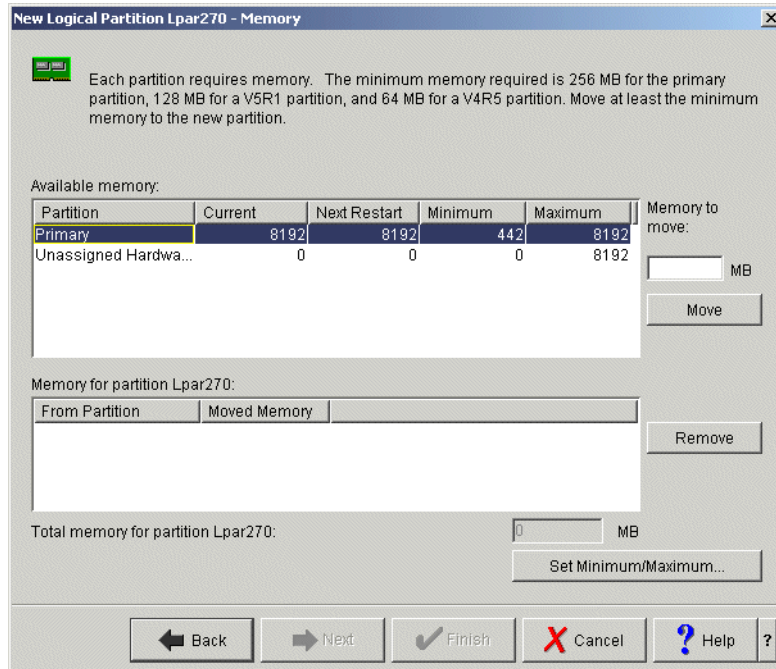

Figure 4-11 New Logical Partition - Memory window
- The New Logical Partition - Memory window appears as shown in Figure 4-11. This window is divided into two areas, Available memory in the top box and Memory for partition (new) in the bottom panel.
- Figure 4-11 shows that all the memory is still allocated to the primary partition and also the minimum and maximum. You need to create a so-called thin primary. You need to leave as little memory as possible in this primary. Click **Primary** to highlight the line. You can then enter the amount of memory to move in the box on the right. The wizard tells you the minimum value possible for the primary. In our case, the minimum value is 442 Mb, which allows us to move 7750 MB.